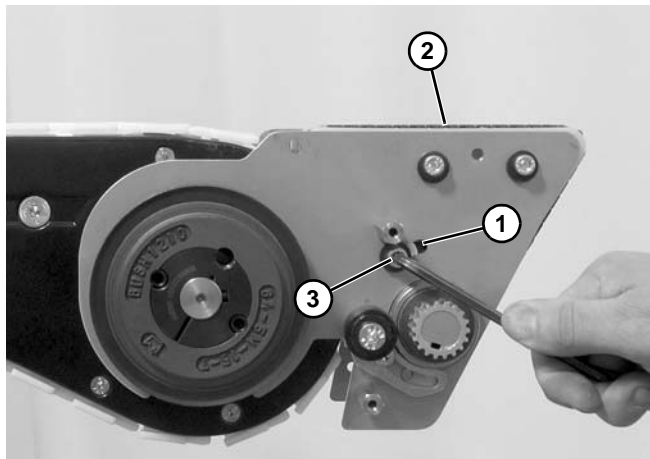

Figure 123
8. Slide idler assembly within slot (Figure 123, item 1) to remove excess slack from belt (Figure 123, item 2). Tighten socket head screws (Figure 123, item 3).